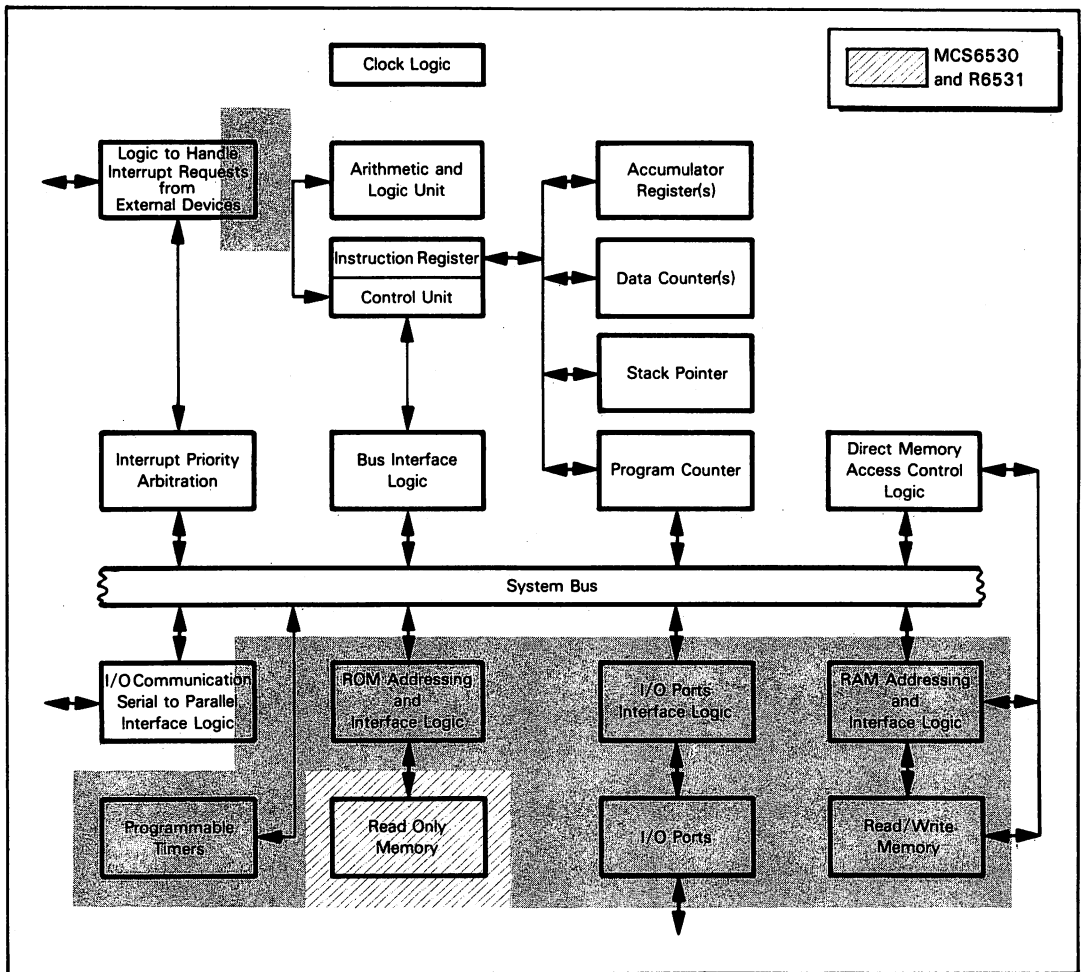
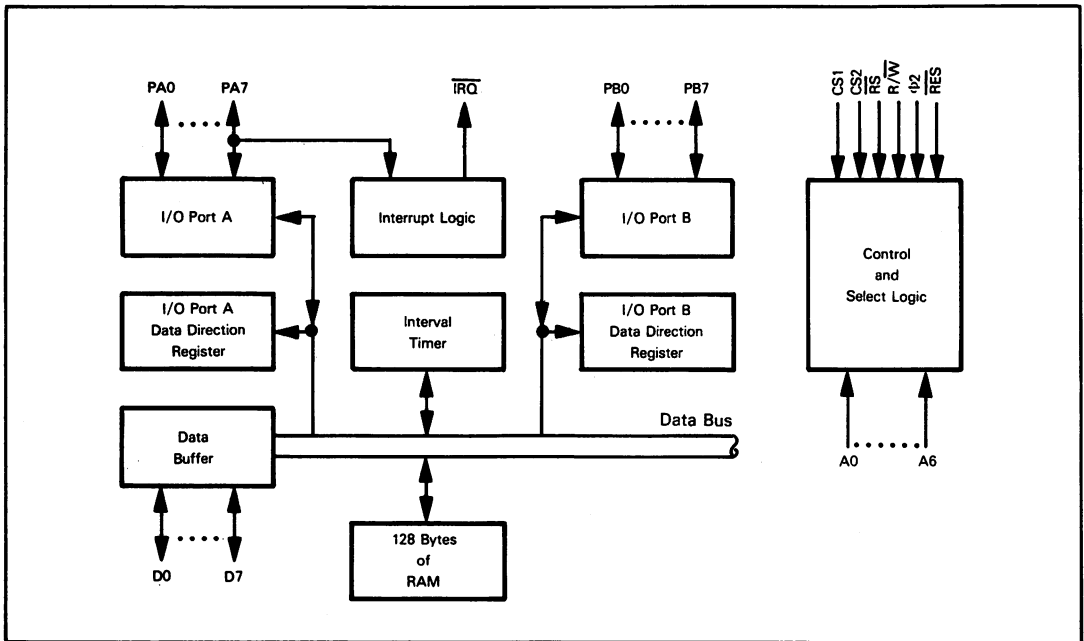

Figure 10-16. Logic of the MCS6530, the R6531 and MCS6532 Multifunction Support Devices
Figure 10-19. Logic Provided by the MCS6532 Multifunction Device
Figure 10-16 illustrates that part of our general purpose microcomputer logic which has been implemented on the MCS6530 multifunction logic device. Figure 10-16 also applies to the R6531 and the MCS6532, which we will describe next.
**Figure 10-16 also illustrates that part of our general purpose microcomputer system logic which has been implemented on the MCS6532 multifunction device. Figure 10-19 illustrates the logic functions provided by the MCS6532.**